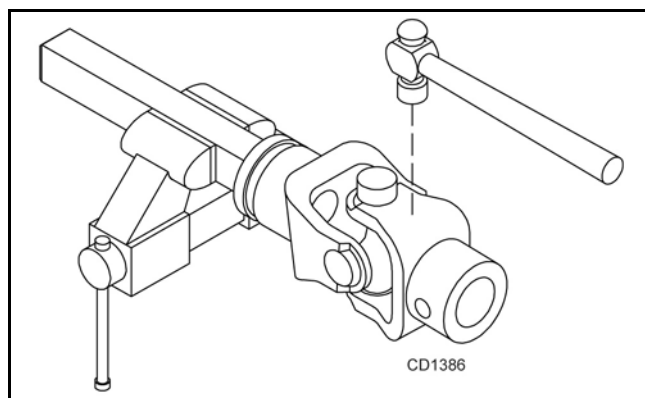

Figure 20
2. With snap rings removed, support drive in vise, hold yoke in hand and tap on yoke to drive cup up out of yoke. See Figure 20.